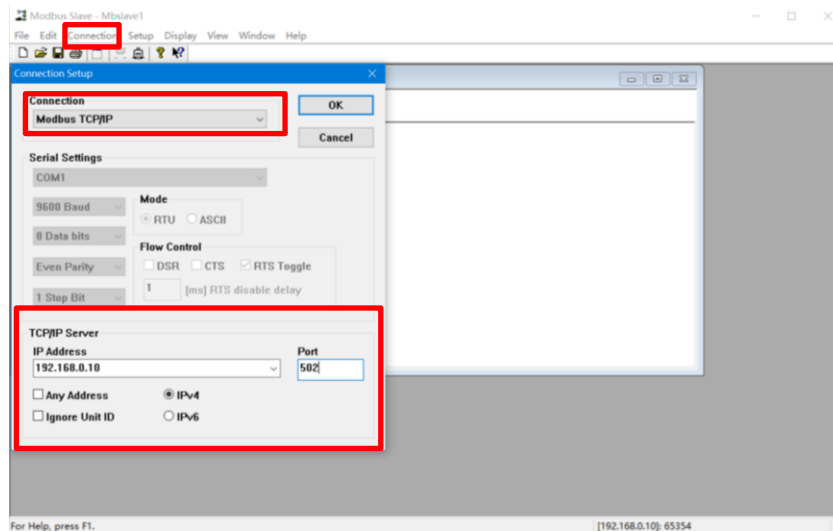

Figure 15
8. To validate the Modbus TCP communication, here used **Modbus Slave** as an example. Click on **Connection** and select **Modbus TCP/IP**. Please enter the IP address and port number of the PC to ensure that the PowerPACK Pro-5 can send a request to the PC, as shown in Figure 15.